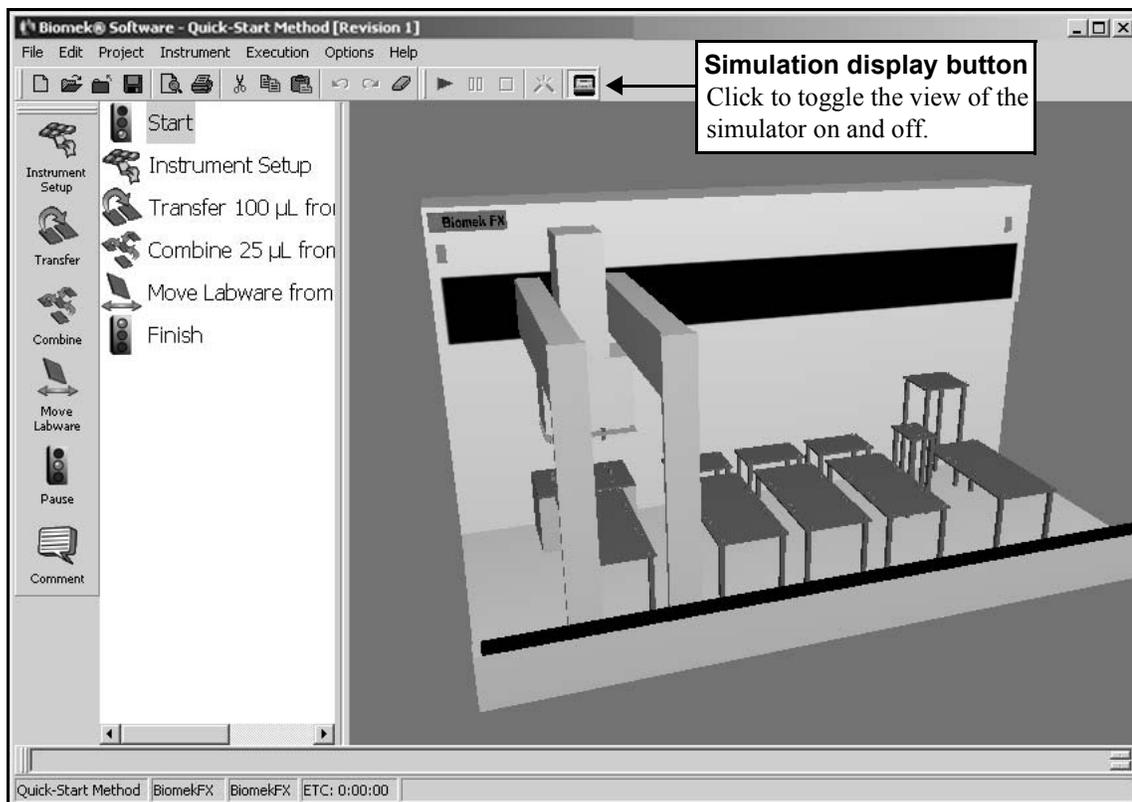
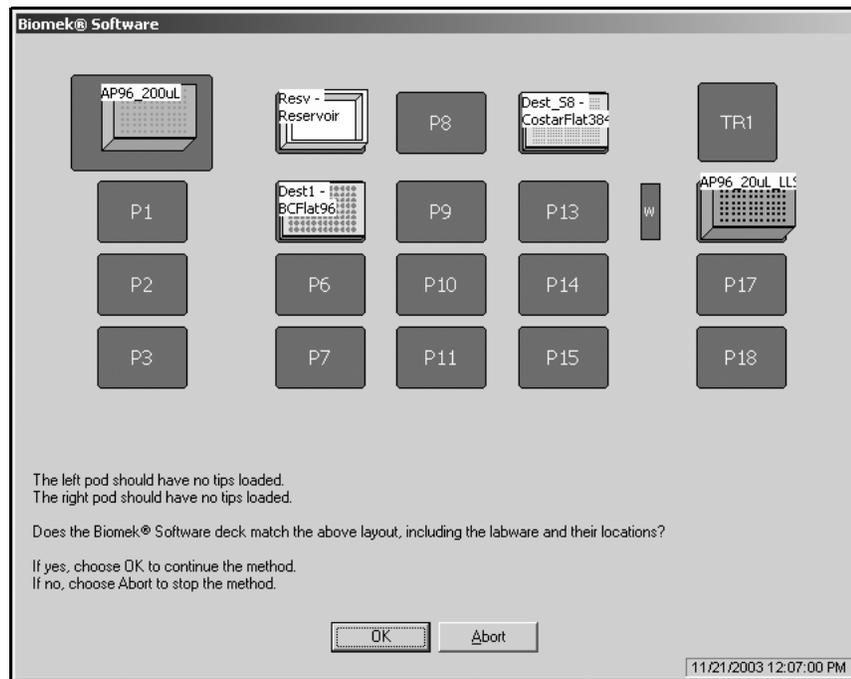

Figure 2-21. Biomek FX simulator displayed
Figure 2-22. Deck confirmation prompt for Quick Start method
1. If you do not see the **Simulation Display** button on the toolbar (Figure 2-21), from the **Instrument** menu, choose **Hardware Setup**. Biomek Hardware Setup appears.
- Click on the **green arrow** button on the toolbar. The simulation display is automatically launched and the step configuration area is replaced with a three-dimensional model of your Biomek FX (Figure 2-21). The deck confirmation prompt (Figure 2-22) appears on top of the main editor.